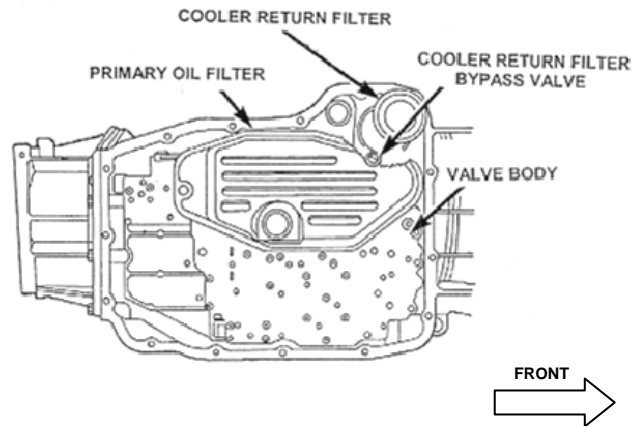

Figure 1
7. Remove the round transmission cooler filter using an oil filter wrench (special tool 8321). (Figure 1) Remove the filter connector nipple from the transmission – if necessary. Discard both parts.
8. Install new cooler return filter to the transmission and tighten the filter to 125 in lbs (14 N·m) (Fig. 1).